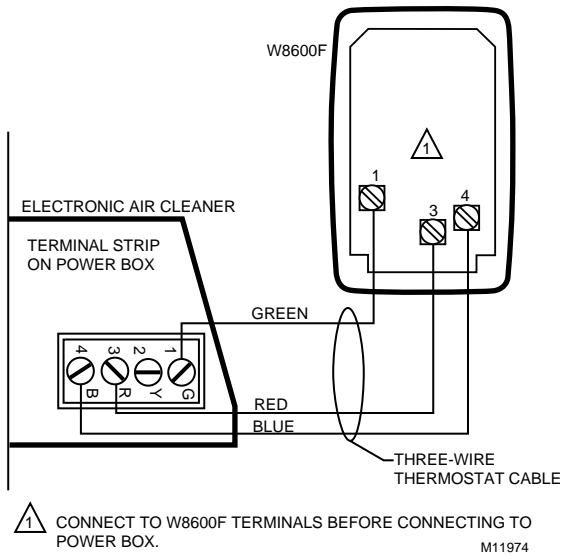

Fig. 12. Wiring W8600F to F300E power box terminal strip (two-cell model).
12. Connect the three wires from the W8600F to the EAC terminals 1, 3 and 4. See Fig 12.